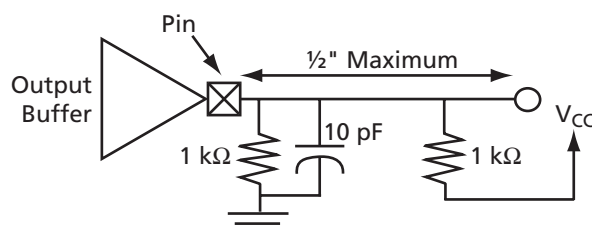

Figure 1-12 • 5 V PCI Slew Load
4. This parameter is to be interpreted as the cumulative edge rate across the specified range, rather than the instantaneous rate at any point within the transition range. The specified load (Figure 1-12) is optional; i.e., the designer may elect to meet this parameter with an unloaded output per revision 2.0 of the PCI Local Bus Specification. However, adherence to both maximum and minimum parameters is now required (the maximum is no longer simply a guideline). Since adherence to the maximum slew rate was not required prior to revision 2.1 of the specification, there may be components on the market for some time yet that have faster edge rates. Therefore, motherboard designers must bear in mind that rise and fall times faster than this specification could occur, and they should ensure that signal integrity modeling accounts for this. Rise in slew rate does not apply to open drain outputs.